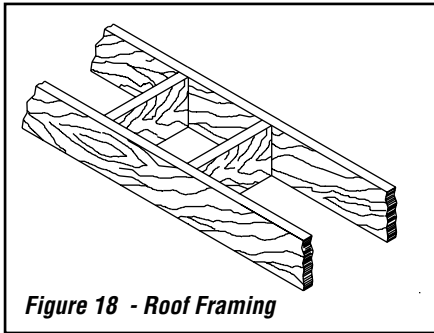

Figure 18 - Roof Framing
1. Cut and frame the holes in the ceiling, floor and roof where the chimney will pass (see **Figure 18**). Use a plumb-bob to line up the center of the holes. The sizes are indicated in **Table 2** for the floor and ceiling holes and **Table 3 (Page 12)** for the roof holes.